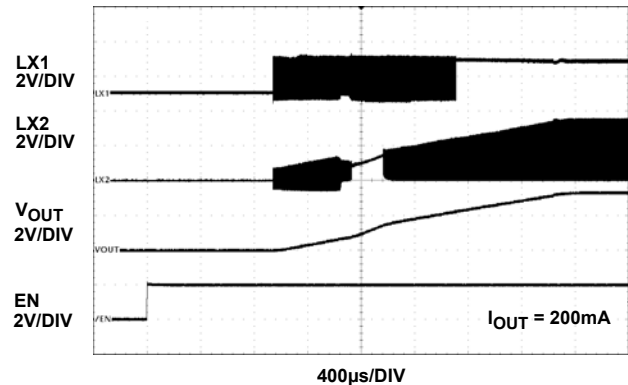

FIGURE 2. ISL91110 START-UP WITH  $V_{IN} = 2\text{V}$  and  $V_{OUT} = 3.3\text{V}$
Refer to the following Quick Setup Guide to configure and power-up the board for proper operation. During the power-on process, the expected waveforms are shown in Figures 2 and 3.
7. Monitor the output voltage start-up sequence on the scope. The waveforms will look similar to that shown in Figures 2 and 3.